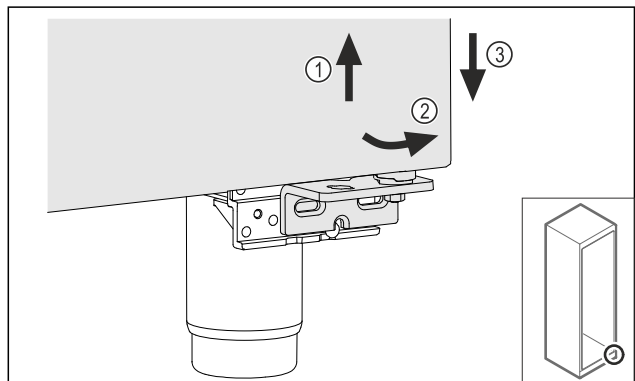

Fig. 21
- Lift the door slightly *Fig. 21 (1)*, tilt it forwards at the bottom *Fig. 21 (2)* and lower it *Fig. 21 (3)*.